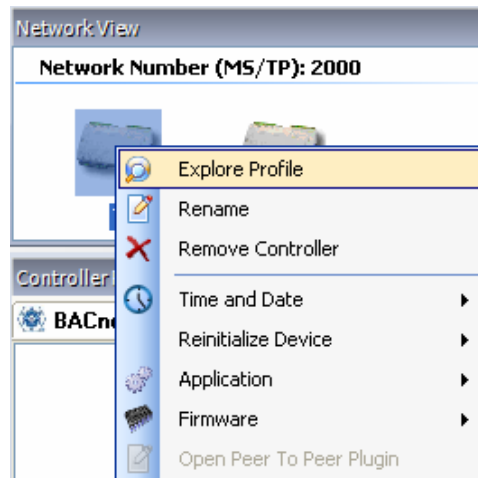

Figure 39: Exploring the Profile
1. In the Network View, right-click on the target device and select Explore Profile (Figure 39).